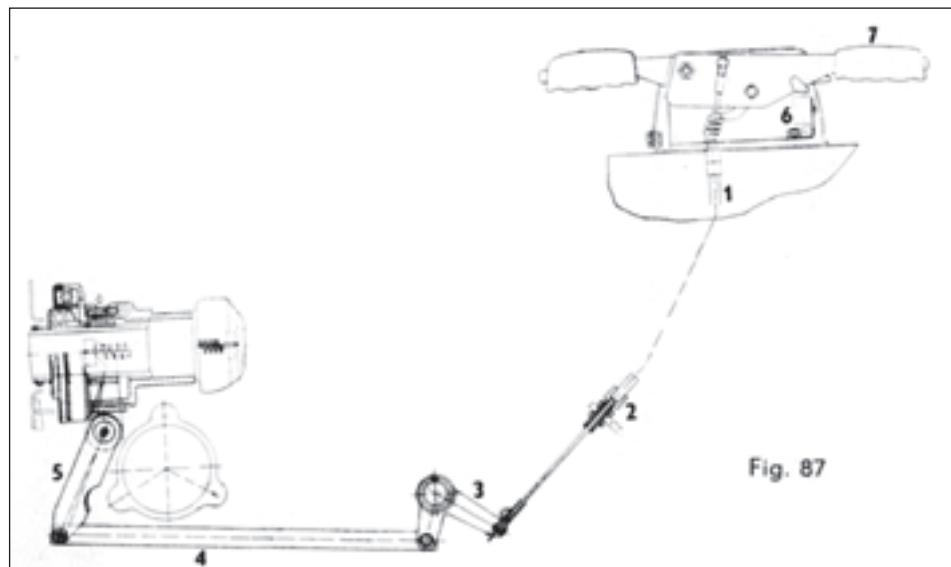

Fig. 87
1. **Mechanical control** (Fig. 87) consists of a hand lever (Fig. 87/7), Bowden cable (Fig. 87/1), adjusting screw (Fig. 87/2), double-arm lever (Fig. 87/3), draw rod (Fig. 87/4) and a shaft with lever (Fig. 87/5). The correct function of the clutch disengagement will be indicated by means of a switch (Fig. 87/6) and a pilot lamp (Fig. 91/1) which is situated on a panel.
After the locknut has been released, turn the adjusting screw (Fig. 87/2) and adjust the play to 4 mm. Having checked the correct play, lock the screw by the lock nut.